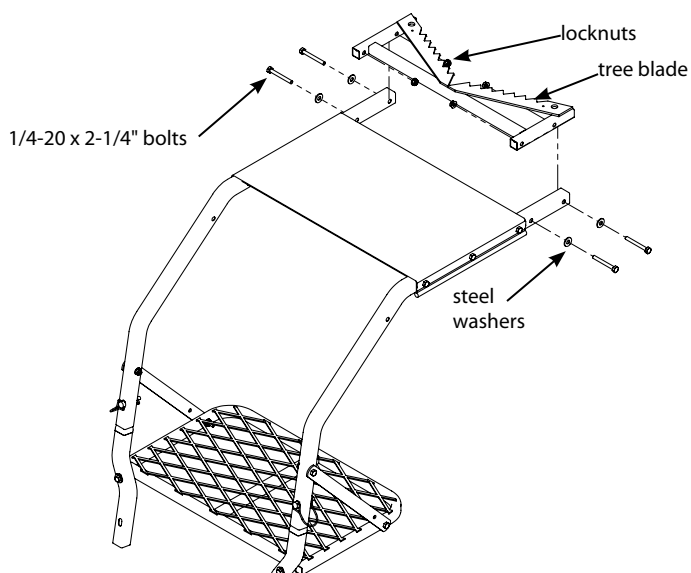

Figure 4
4. Attach the tree blade weldment (SL67) to the rear end of ladder side rails using (4) provided 1/4-20 x 2-1/4" bolts, locknuts and steel washers. **SEE FIGURE 4. The tree blade will be a tight fit in order to correctly span the seat properly. You must now tighten all nut & bolt assemblies. Be sure not to over tighten or crush tubing when tightening!**